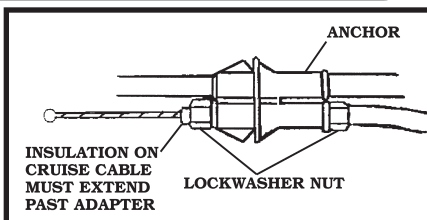

Figure 25
4. Insert the **CRUISE CABLE** through the blank anchor and thread the other **LOCKWASHER NUT** in place. **Figure 25**